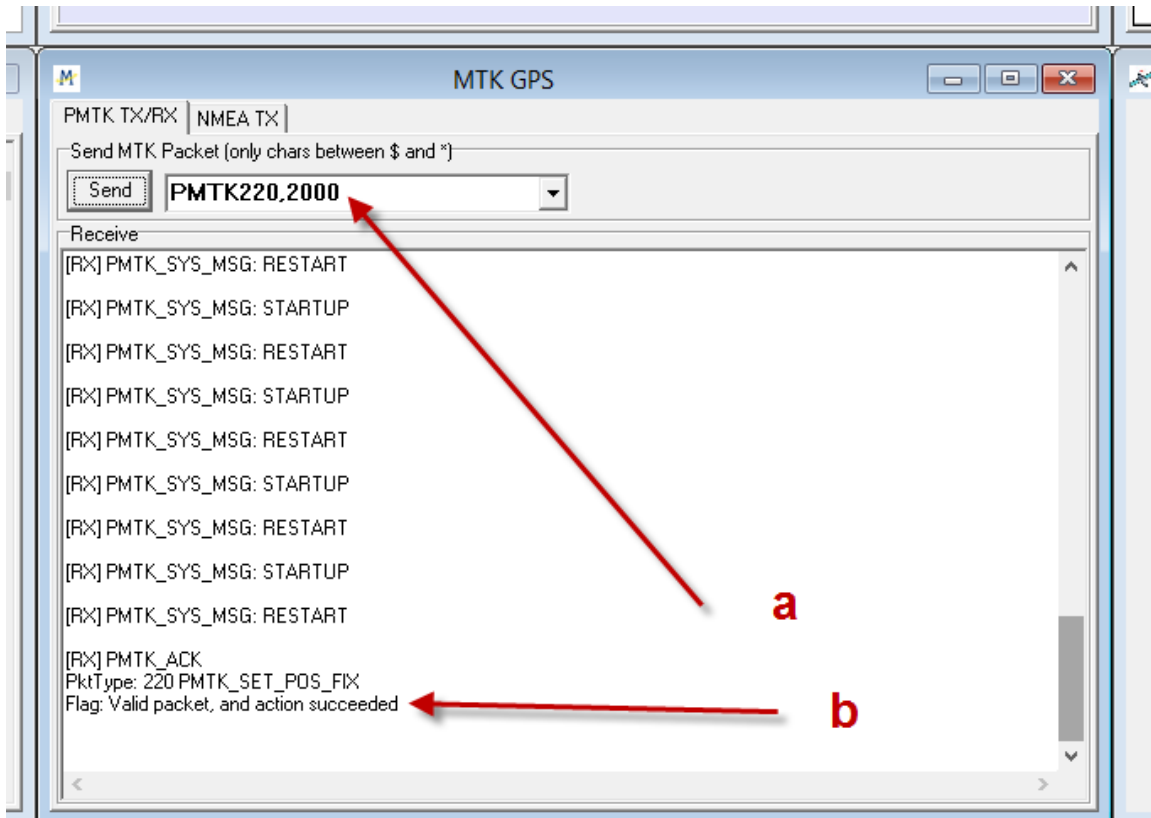

Figure 6 – Entering manual commands
- a. Enter the wanted command, without the ‘\$’ sign and without checksum. Those will be added automatically by the software. Press “Send” button (figure 6).
- b. After sending the command – you will receive ACK if the command is valid and accepted or NACK – if the command is rejected, with the command number and information about the packet – valid / not valid, and action – succeed / failed (figure 6).